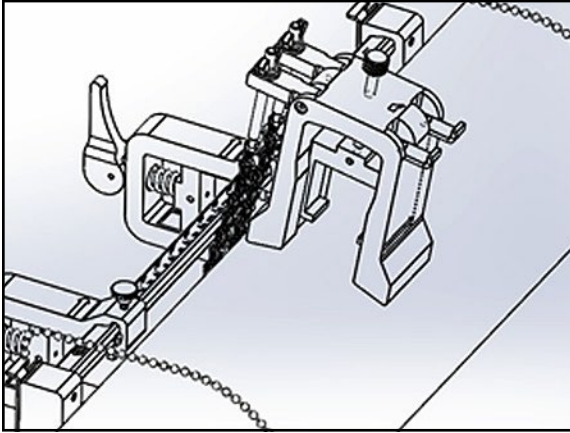

Figure 26: Yoke Placement On Top of Pipe
2. Place the yoke on the top of the pipe (see Figure 26 below). If the required transducer spacing is  $< 305$  mm/12 in., the yoke chain must be placed within the clamping fixture as shown.